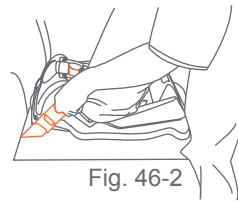

Fig. 46-2
5. Locate the **LATCH** anchors in the vehicle seat. (Fig. 45-2) Once located, snap the Safety Seat **LATCH** connectors onto the steel rod. Listen for the click and check that both connectors are firmly attached to the anchor rods by pulling outward on the connectors. (Fig. 46-2)
To tighten the webbing, push down hard with your knee or hand on the Base while pulling upward on each webbing end. The webbing will automatically lock in place. **Check that there is no slack in the webbing on both sides of the base and that the base is tightly installed.** Fig. 46-2 and 46-3.